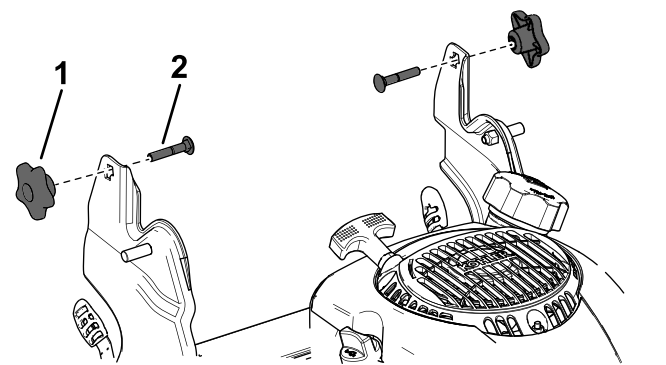

Figure 20
3. Insert the carriage bolt (with the bolt head toward the inside) through the handle bracket and the upper hole in the handle end. Ensure that the square edges of each carriage bolt fits into the upper or lower square hole in its related handle bracket (**Figure 20**).